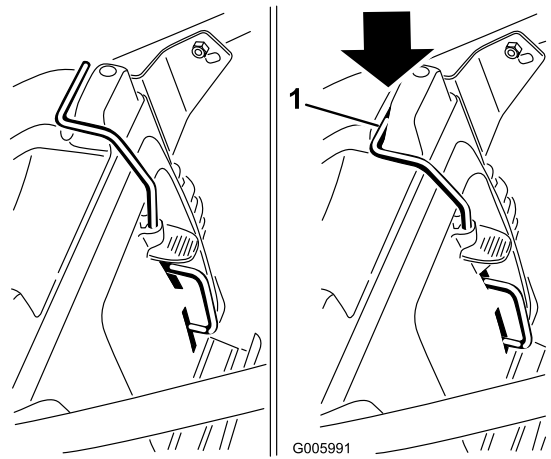
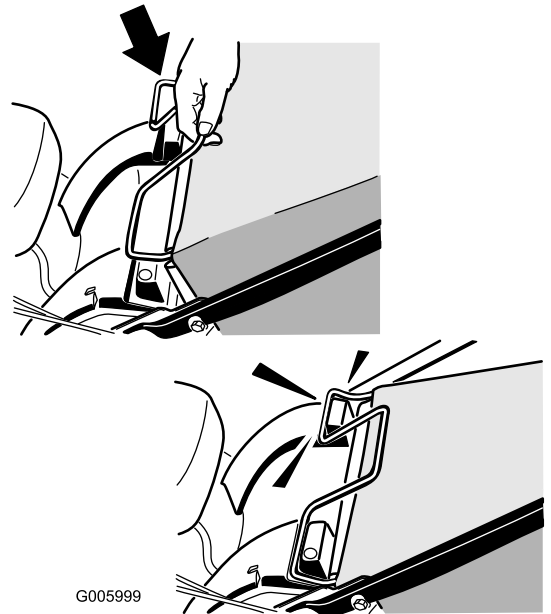

Figure 17
Figure 18
1. Install the rear-discharge plug (Figure 17) or the grass bag (Figure 18) on the machine.